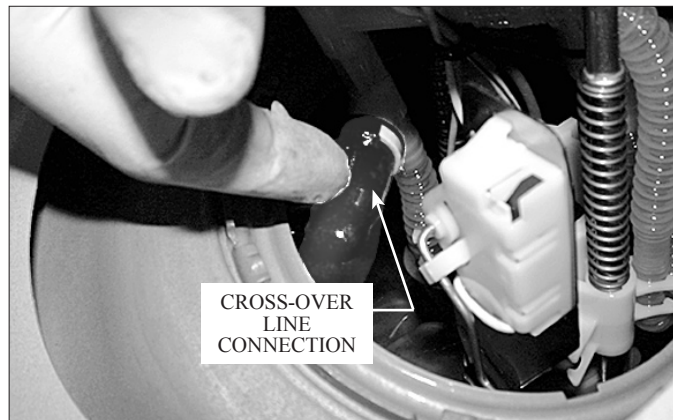

Fig. 13-c
- E. Slowly pull the fuel pump assembly up. Locate the cross-over fuel line connection on the fuel pump assembly and disconnect. (See Fig. 13-c.)